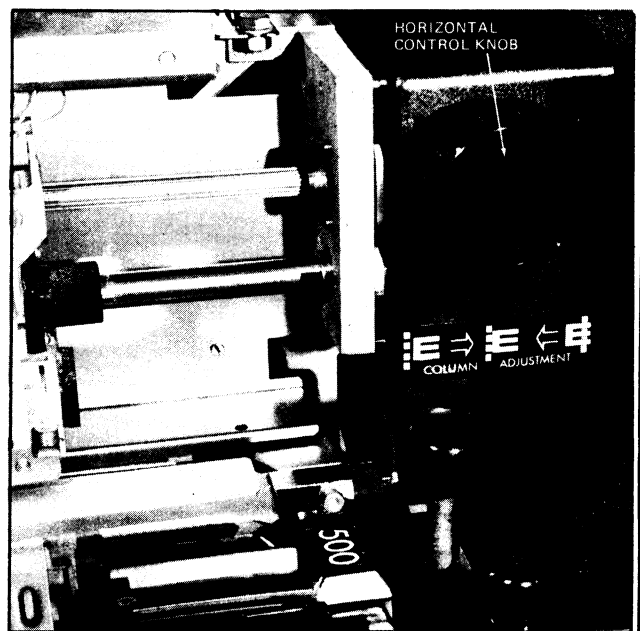

Figure 3-6. Paper Positioning Controls (Right-hand Side)
10. If necessary, adjust horizontal positioning by turning horizontal control knob (Figure 3-6). PAPER POSITION indicator illuminates unless paper is correctly positioned.